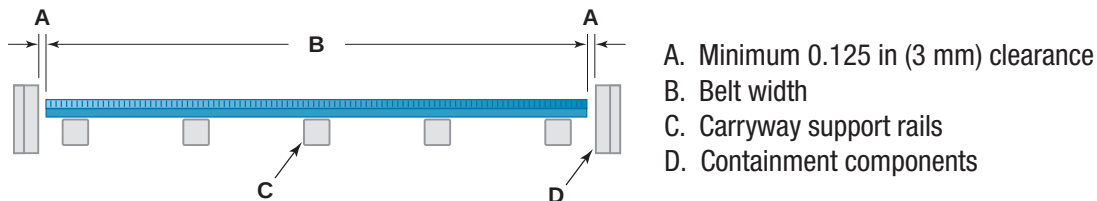

Figure 36
- Use the largest belt dimensions to design a minimum 0.125 in (3 mm) clearance between containment components and the belt edge on each side of the belt (Figure 36, A).